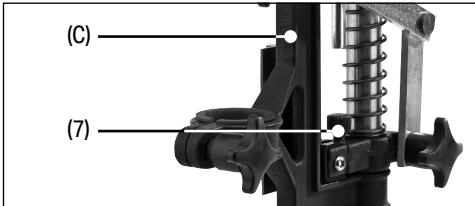

Fig. 2
2. Ensure that the head assembly (C) is attached to the column bar the correct way round – the depth stop (7) should be positioned at the bottom of the head assembly. (Fig.2)